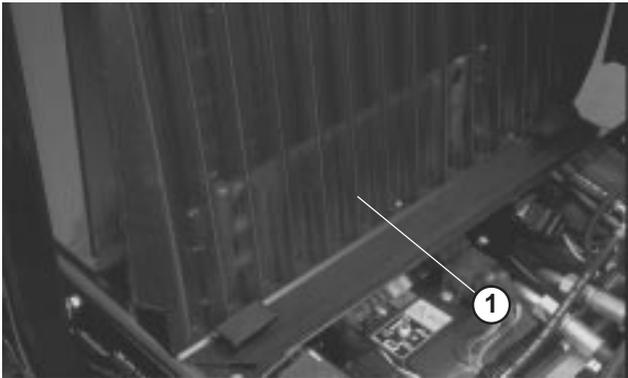

Figure 54
2. Loosen clamps and pull up on screen to slide it out of mounting tracks (Fig. 54). Clean screen thoroughly with compressed air.